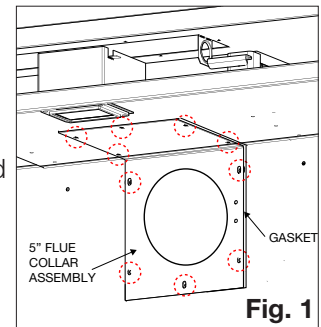

Fig. 1
- Secure the flue collar assembly, gasket and rear exit shield using the 10 hex head 3/4" black screws (**Fig. 1**).
- Remove both 1 1/2" (38.1mm) thick batts of insulation and **discard (Fig. 1)**.